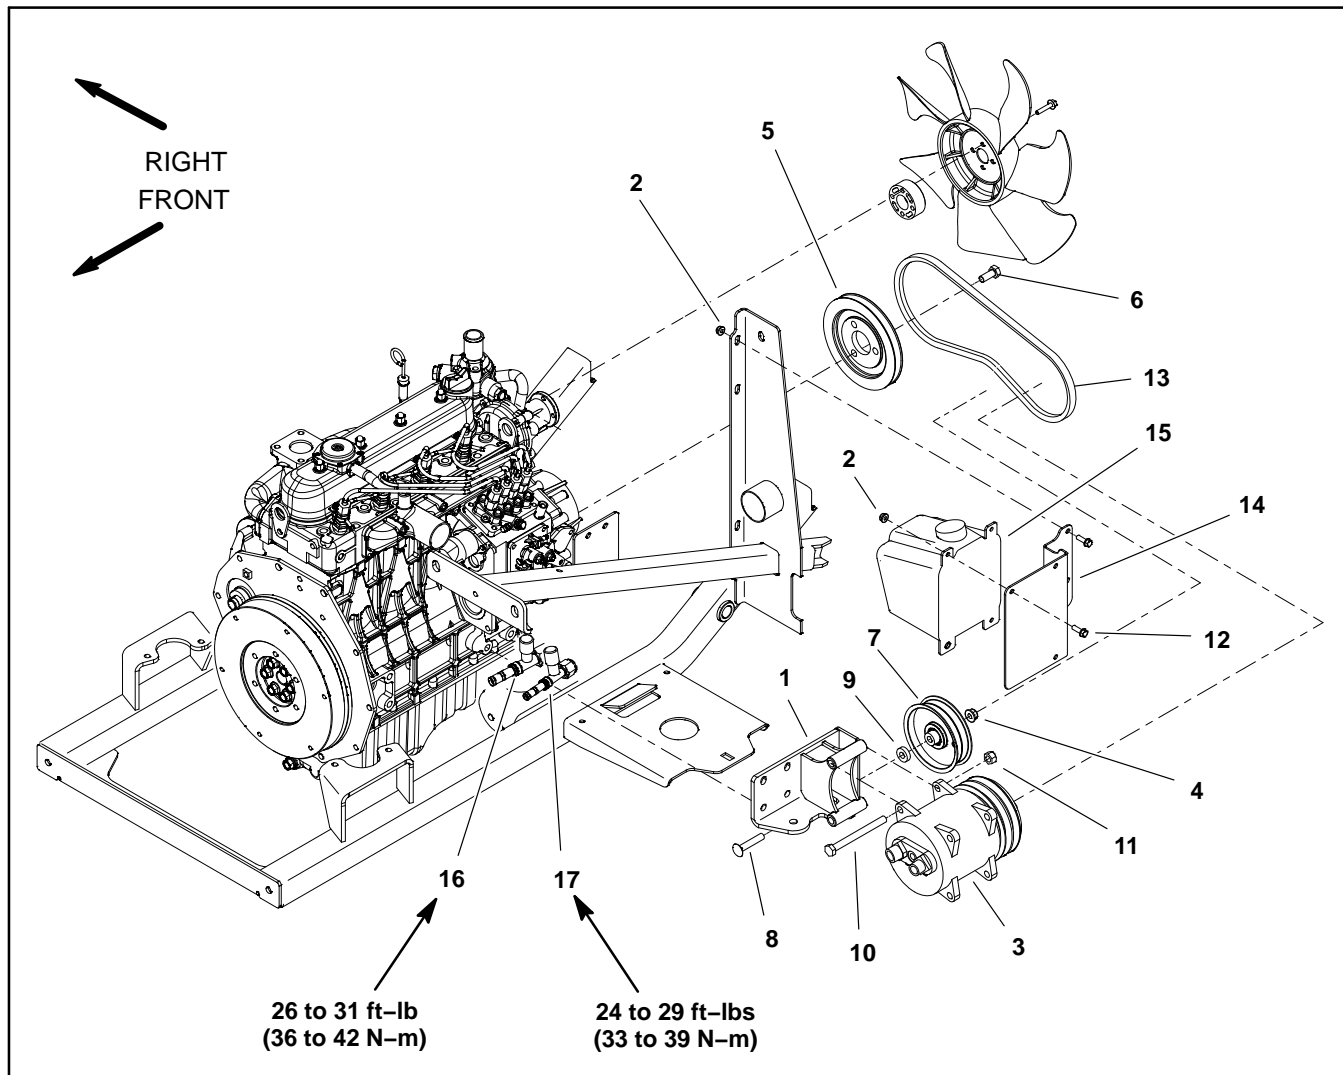

Figure 1
Removal (Fig. 1)
Installation (Fig. 1)
4. Manually rotate the compressor drive shaft at least ten (10) revolutions to make sure that no compressor oil is in the compressor cylinders.
8. Remove caps that were placed on hoses and fittings during the removal process. Using labels placed during removal, properly secure hoses to compressor. Tighten hose fittings to torque values shown (Fig. 1).